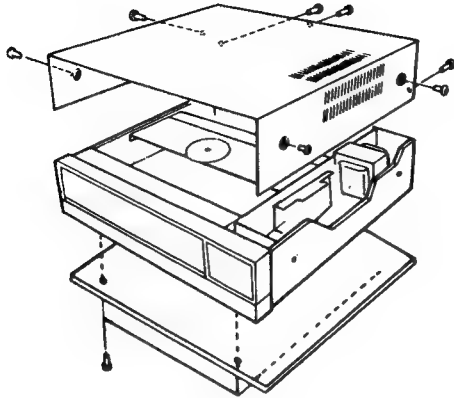

Fig.1
1. Remove the bonnet and the bottom plate. (Fig.1)
1. Remove the bonnet. (Fig.1)